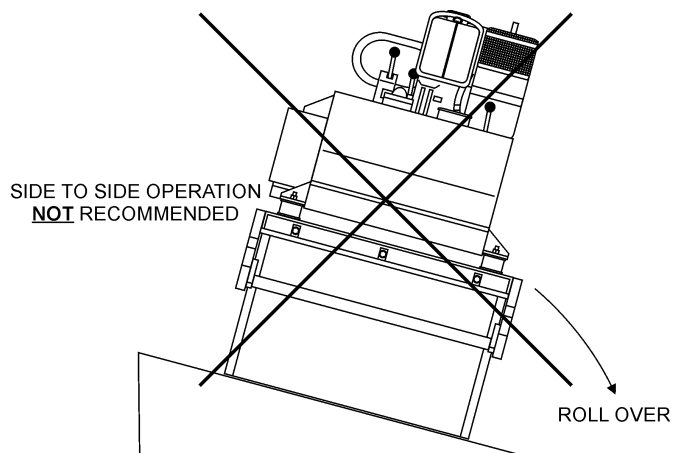

Figure 5. Recommended Slope
**NEVER!** operate the roller on side slopes (Figure 5). The possibility exist that the roller could tip over (roll over), thus causing bodily harm even death and serious damage to the equipment.